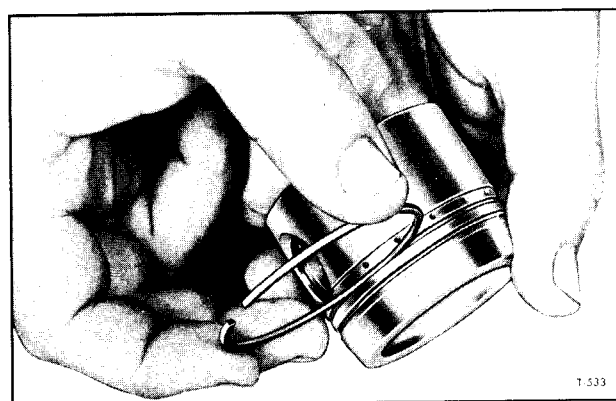

Figure 45—Checking Piston Ring Groove Clearance
3. Inspect pistons (38) for scoring, cracks, or damage of any kind.
4. Check fit of rings (41) in piston ring grooves. Use back edge of ring to check fit (fig. 45). Rings should move freely in piston grooves.